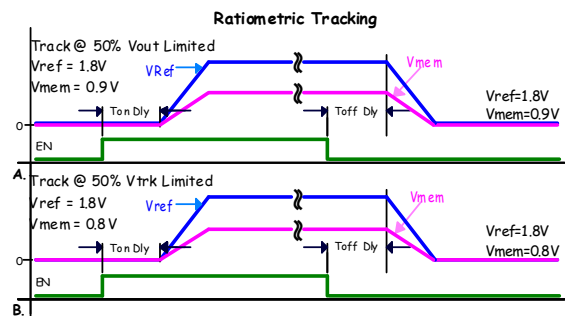

FIGURE 18. RATIOMETRIC TRACKING
1. Track at 50%  $V_{OUT}$  limited. Member rail tracks the reference rail and stops when the member reaches 50% of the target voltage, Figure 18\(A\).
2. Track at 50%  $V_{TRK}$  limited. Member rail tracks the reference at the instantaneous voltage value applied to the VTRK pin until the member rail reaches 50% of the reference rail voltage, or if the member is configured to less than 50% of the reference the member will achieve its configured target, Figure 18\(B\).